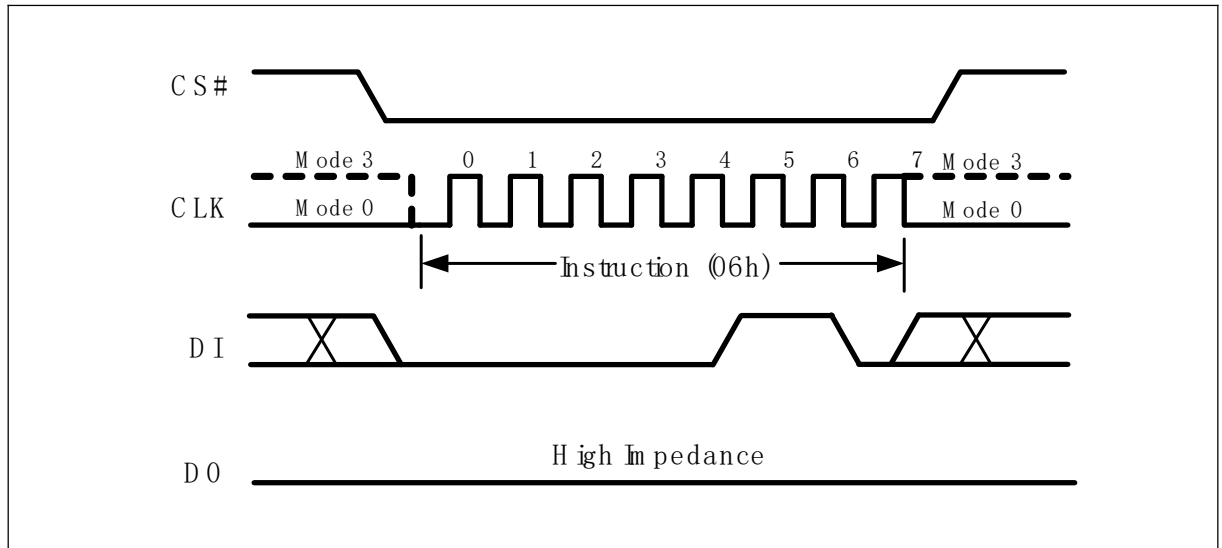
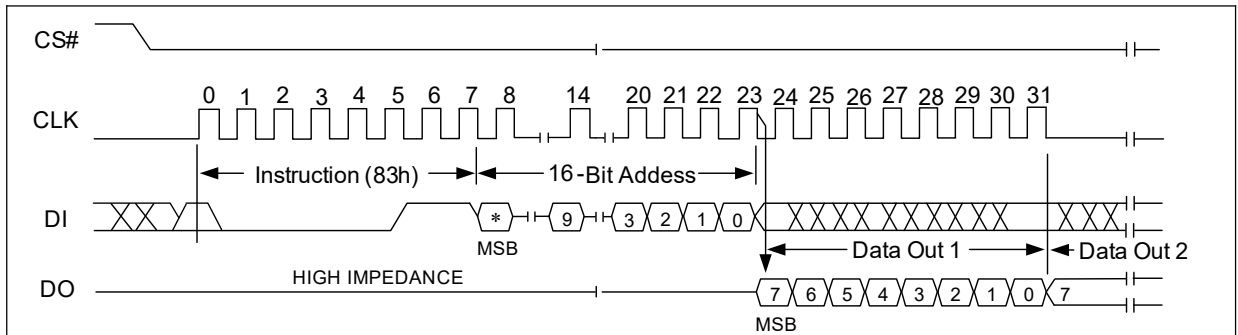

Figure 5 Write Enable Instruction
Figure 15 Read UID Number Sequence
Instructions vary in length from a single byte to several bytes and may be followed by address bytes, data bytes, and in some cases, a combination. Instructions are completed with the rising edge of edge CS#. Clock relative timing diagrams for each instruction are included in Figure 5 through Figure 15. All read instructions can be completed after any clocked bit. However, all instructions that Write must complete on a byte boundary (CS# driven high after a full 8-bits have been clocked) otherwise the instruction will be ignored. This feature further protects the device from inadvertent writes. Additionally, while the memory is being written, or when the Status Register is being written, all instructions except for Read Status Register will be ignored until the write cycle has completed.
The Write Enable (WREN) instruction (Figure 5) sets the Write Enable Latch (WEL) bit in the Status Register to a 1. The WEL bit must be set prior to every Write and Write Status Register instruction. The Write Enable (WREN) instruction is entered by driving CS# low, shifting the instruction code "06h" into the Data Input (DI) pin on the rising edge of CLK, and then driving CS# high.
The Read Unique ID Number instruction accesses a factory-set read-only 128-bit number that is unique to each FM25160 device. The ID number can be used in conjunction with user software methods to help prevent copying or cloning of a system. The Read Unique ID instruction is initiated by driving the CS# pin low and shifting the instruction code “83h” followed by a 16-bit address A15-A0 into the DI pin. Address bit A9 must be ‘1b’, upper address bits are don’t care, the lower address bits [A3:A0] define the byte address inside the UID. After which, the 128-bit ID is shifted out on the falling edge of CLK as shown in Figure 15. When the end of the 128-bit UID number is reached (16 bytes of data), the data word address will roll-over back to the beginning of the 128-bit UID number. The read UID cycle is terminated by driving CS# pin high.